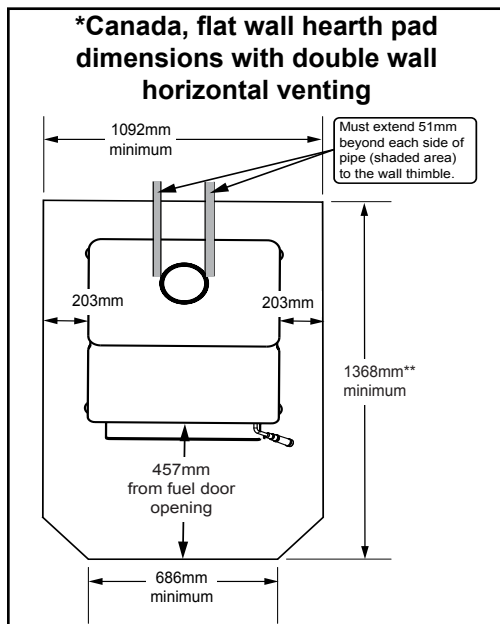

Figure 11.2 - **this dimension will vary depending installation.
In Canada, similar floor protection must be provided 18 inches (457mm) in front and 8 inches (203mm) from the sides and rear of the appliance unless the hearth pad is placed against the wall (**Figure 11.2**). Then the clearance may be reduced using double wall pipe and the **Clearance to Combustibles** table listed on page 12.
***Exception:** Non-combustible floor protector must extend beneath the flue pipe when installed with horizontal venting and extend 2 inches (51mm) beyond each side; **See Figure 11.2**